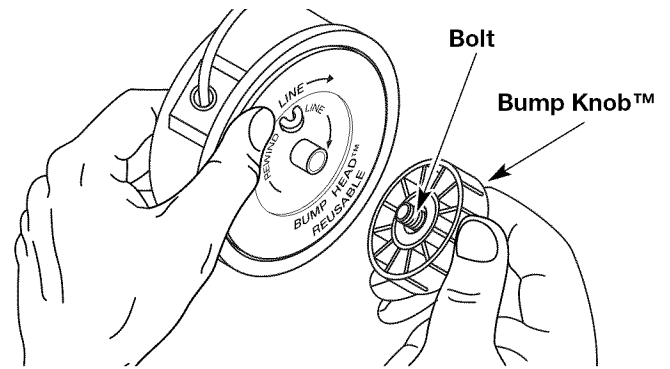

Fig. 15
1. Hold the outer spool with one hand and unscrew the Bump Knob™ counterclockwise (Fig. 15). Inspect the bolt inside the Bump Knob to make sure it moves freely. Replace the Bump Knob if damaged.
- Hold the outer spool with one hand and unscrew the bump knob counterclockwise (Fig. 15). Inspect the bolt inside the bump knob to make sure it moves freely. Replace the bump knob if damaged.